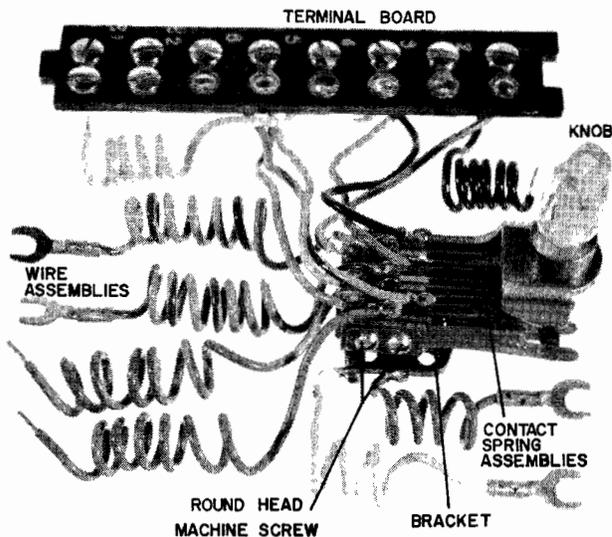

Fig. 2-1 TYPICAL TURN AND PUSH KEY
2.1 The various parts of a typical assembly are identified in Fig. 2-1.